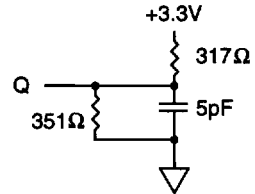

Figure 2
- The load used for V_{OH}, V_{OL} testing is shown in Figure 2. AC load current is higher than the shown DC values. AC I/O curves are available upon request.
2. This parameter is measured with output load as shown in Figure 2.